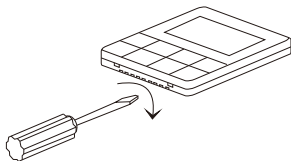

Fig.1
2. As shown in Fig. 1, use a flathead screw driver to pry the bottom groove of the wire controller lightly (too much force would damage circuit board), pry rotationally to open the back cover.